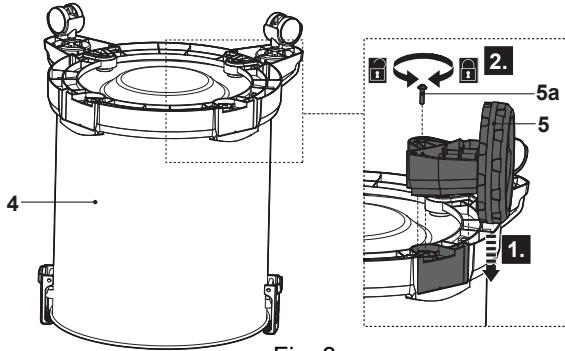

Fig. 3
- > Align and slide the rear wheels (5) onto the supports. The rear wheels and the vacuum base are marked with the numbers 1 and 2. Insert wheel 1 into slot 1 on the back of the vacuum; insert wheel 2 into slot 2 on the back of the vacuum. Secure the connection with the screws (5a), using a suitable crosshead screwdriver (Fig. 3 & 4).